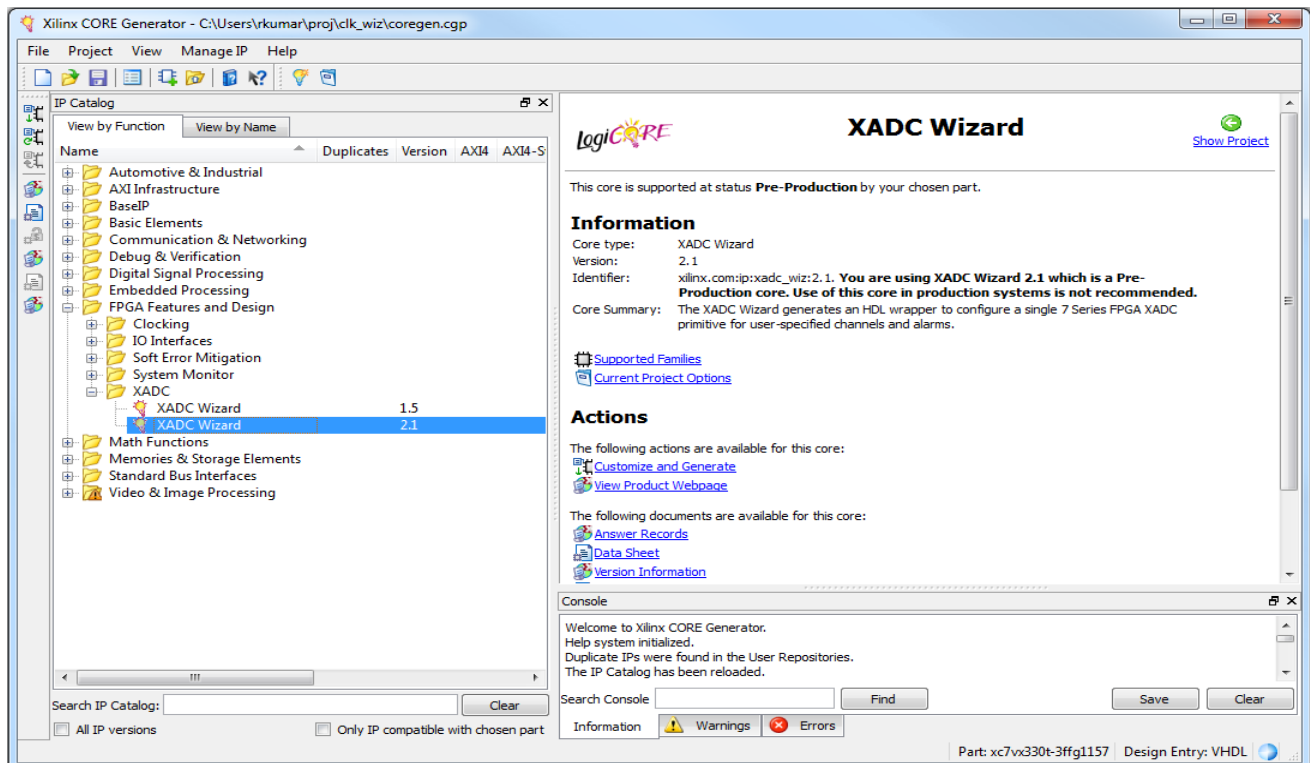

Figure 2-1: CORE Generator Window
2. After creating a new 7 series family project or opening an existing one, the IP core functional categories appear at the left side of the window, as shown in Figure 2-1.